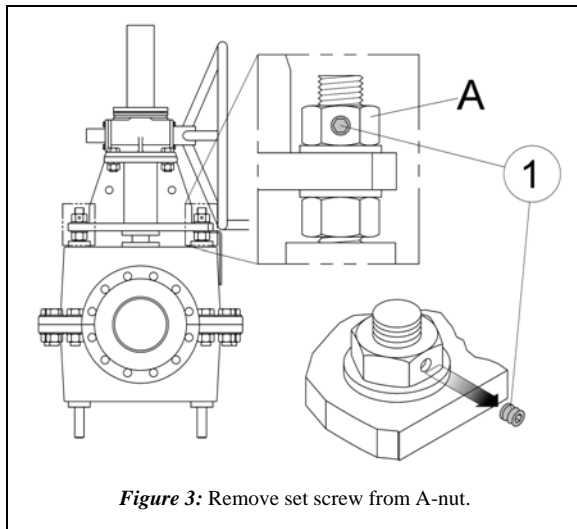

Figure 3: Remove set screw from A-nut.
STEP 2: Remove the set screw ① from each A-nut and cut/scrape away the blue rubber coating above each A-nut (Fig. 3).